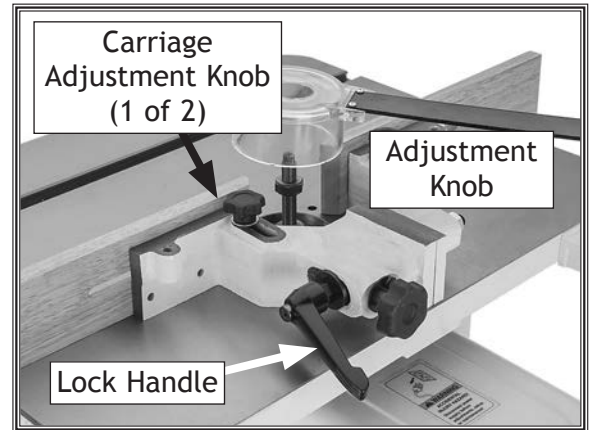

Figure 31. Fence controls.
1. Loosen the lock handle (see **Figure 31**).
2. Turn the adjustment knob (see **Figure 31**) located on the back of the fence mount and adjust the infeed fence until the workpiece contacts the cutter at the desired location.
1. Loosen the lock handle (see **Figure 31**) on the side of the fence mount.